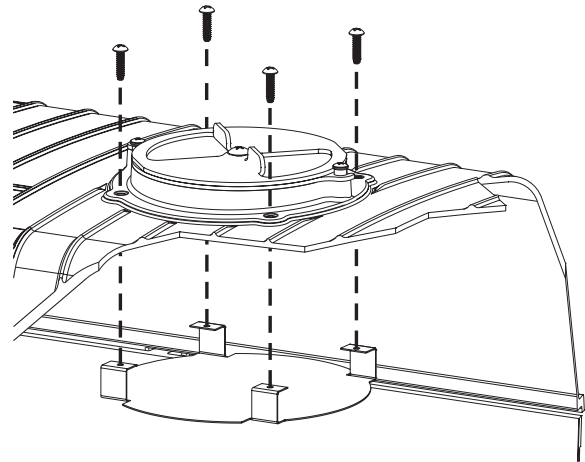

Figure 9
1. Secure the upper spark arrester plate to the inside of the grill body top using four #10-16 x 3/4" pan-head screws as shown in Figure 9.